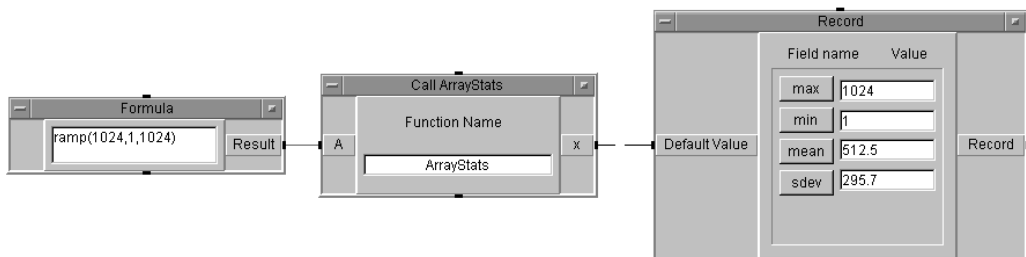

Figure 185 After Editing ArrayStats Output to a Record
- 8 Run the program. It should look like Figure 185.